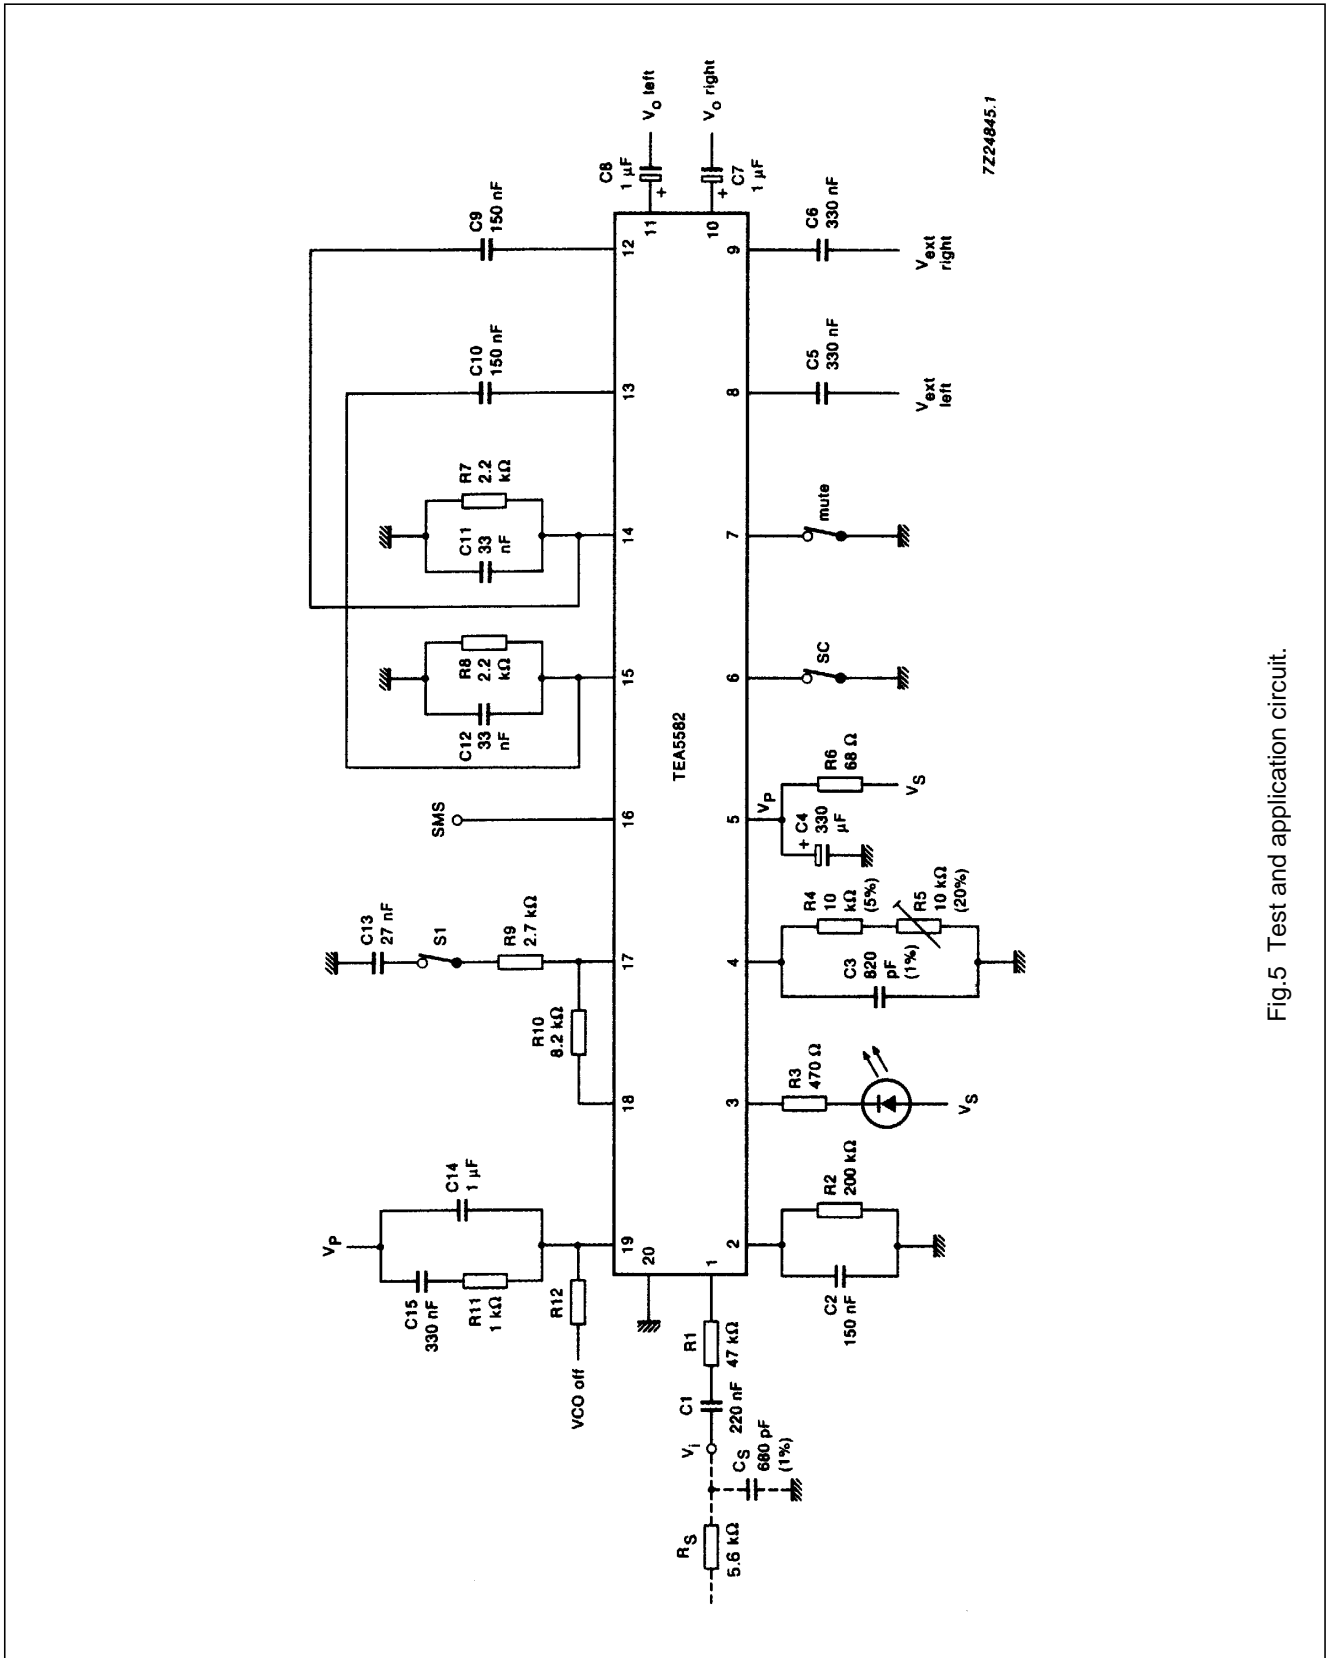

Fig.5 Test and application circuit.
Measured in the test circuit of Fig.5; $V_S = 8.5\text{ V}$; $T_{\text{amb}} = 25\text{ }^\circ\text{C}$.
AC conditions: (1) input signal (V_i) of 815 mV p-p for L = 1, R = 1 (mono) $f_m = 1\text{ kHz}$ (= 80% modulation). (2) MUX input signal (V_i) of 1.2 V p-p for L = 1, R = 0 and no DBX; $f_m = 1\text{ kHz}$ (stereo) and $V_{\text{pilot}} = 200\text{ mV p-p}$. (3) S1 open, unless specified (without L-R filter); voltage controlled oscillator (VCO) adjusted to 188.8 kHz at $V_i = 0\text{ V}$; values are measured with an external IF roll-off network (-2 dB at $31.5\text{ kHz} = 2f_H$) at the input (dashed components RS and CS in Fig.5).